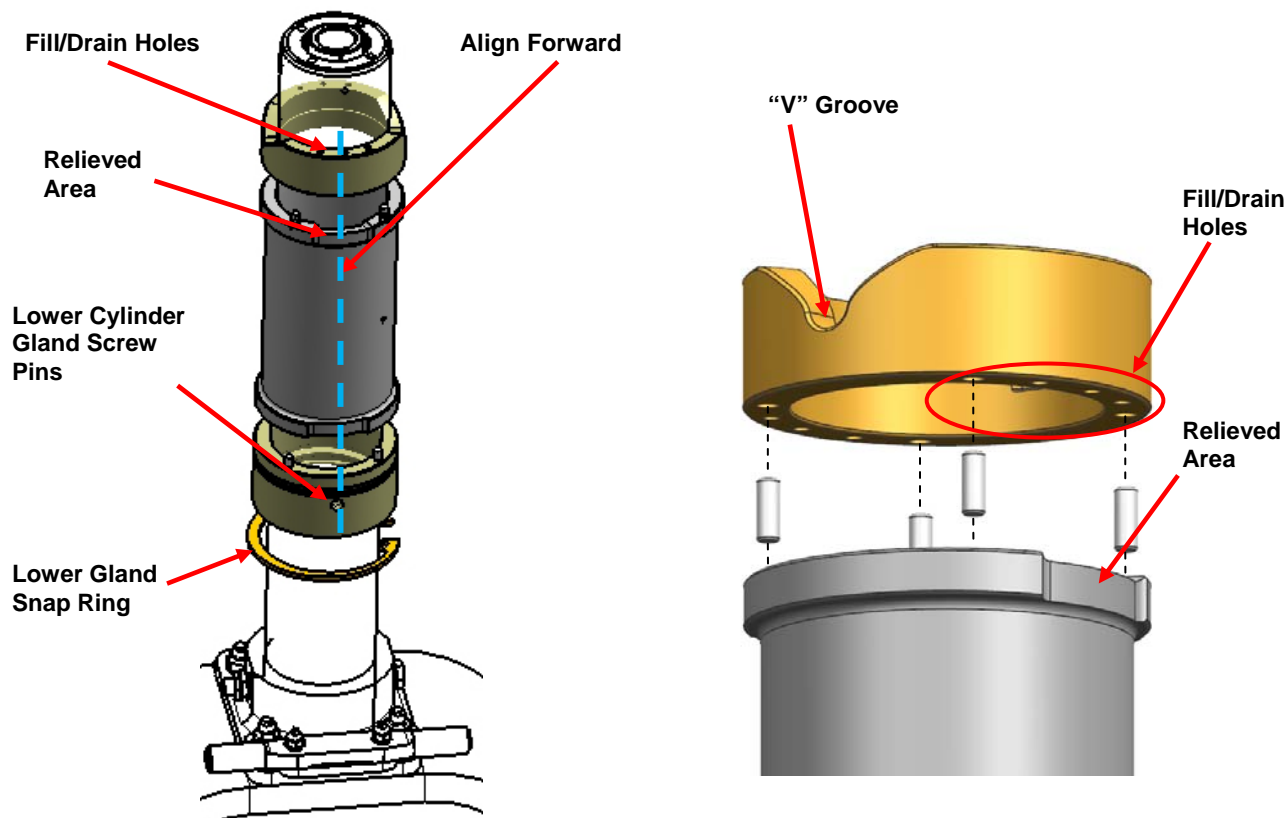

Figure 5-7: Gland Alignment and Installation
- Ensure that the lower gland retainer snap ring (P/N MS16625-1325) is located on the chrome tube as shown in **Figure 5-7**.
8. Orient the glands and torque tube forward and slide the glands and torque tube up to engage the centering pins into the upper gland "v" groove. Refer to **Figure 5-7**.
Ensure that the fill/drain holes in the upper gland are in line with the relieved area of the torque tube and the two (2) lower cylinder gland screw pins as shown in **Figure 5-7**.